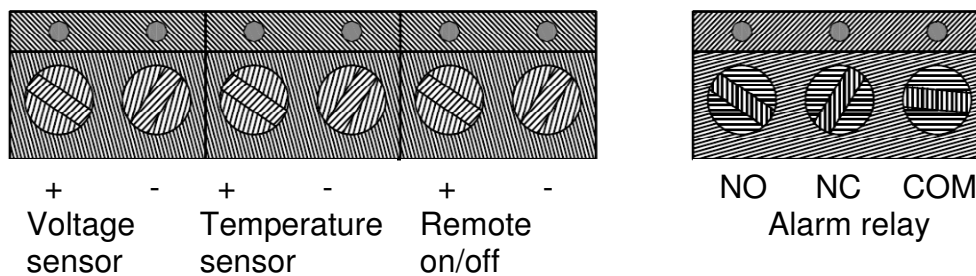

Figure 3 Connector block
2.3.1. External voltage sensor (see fig 3)